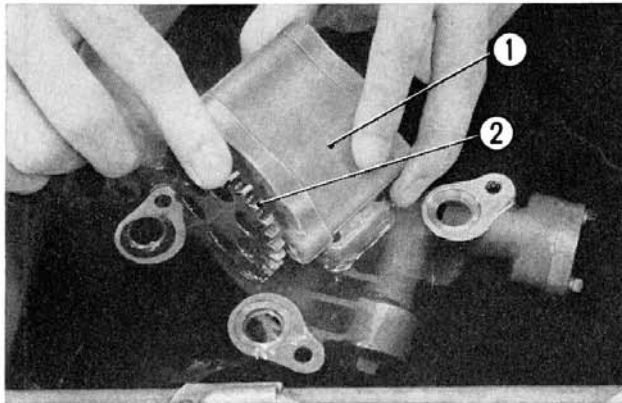

Fig. 3-19 ① Oil pump assembly
② Oil pump drive gear
6. Immerse the pump in oil and turn the pump until filled with oil before reinstalling the pump on the crankcase. (Fig. 3-19)